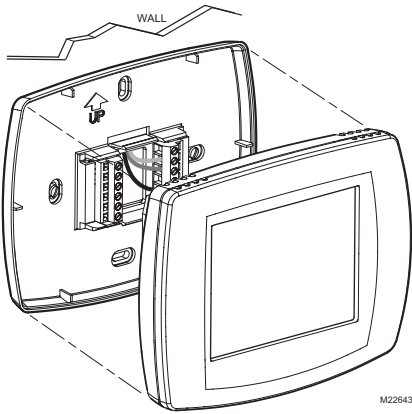

Fig. 17. Mounting comfort control on wallplate.
2. Push the comfort control straight onto the wallplate. See Fig. 17.